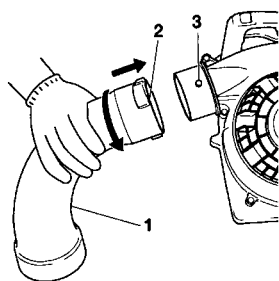

Fig.3-1
- Connect bent pipe (1). Align groove (2) in bent pipe with projection (3) on blower housing and slide the pipe onto the blower housing.
- Rotate the pipe clockwise to lock it into place. (Fig.3-1)